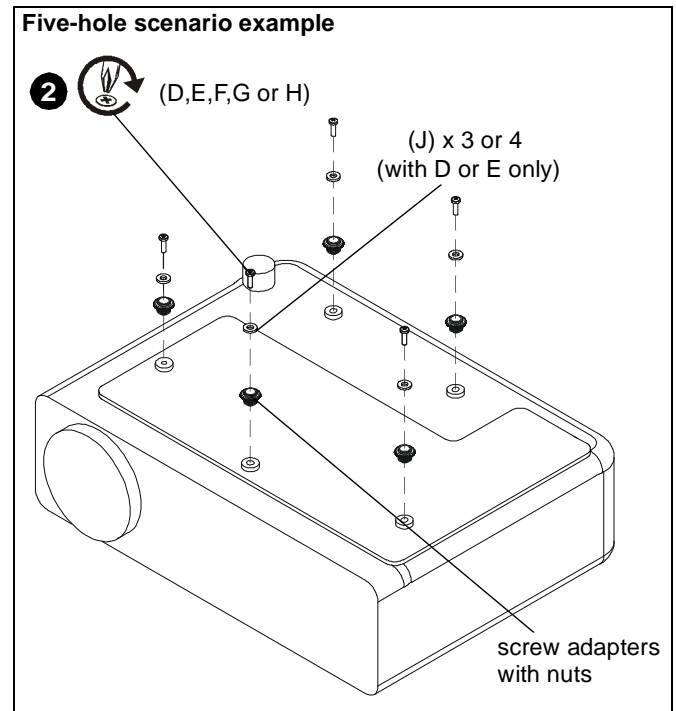

Figure 2
2. Insert screws through M4 flat washers (J), screw adapters with height-adjustable nuts and into projector holes. (See Figure 2)